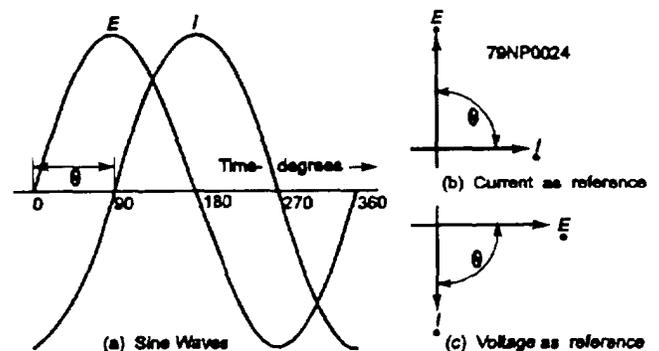

Figure 3-24.—Waves and vectors of alternating current and voltage in a circuit containing only inductance.
Look at figure 3-24. Here, you can see that the voltage (E) is leading the current (I) by θ degrees. You